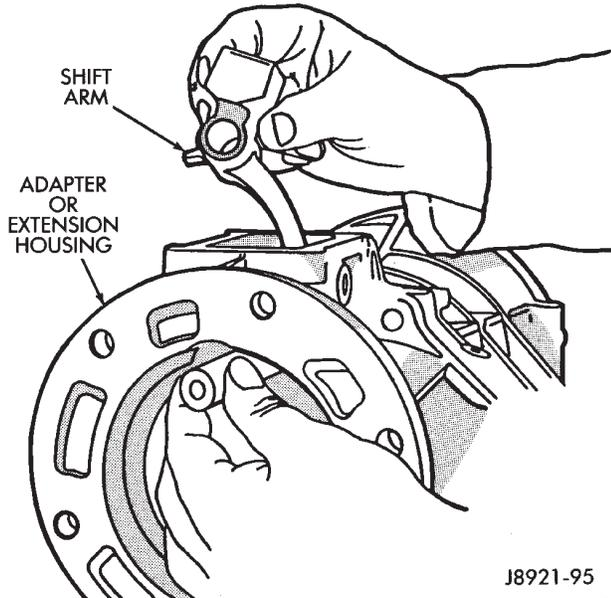
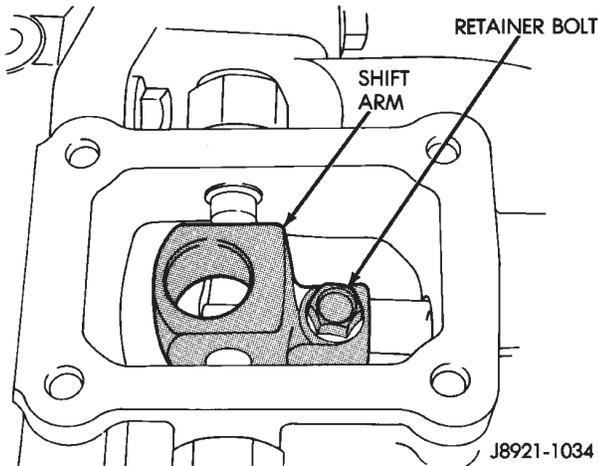

Fig. 40 Install Shifter Arm Shaft
Fig. 41 Install Shifter Arm Retainer Bolt
(11) Start shifter arm shaft in hole in back of adapter or extension housing. Align shift arm and shifter arm shaft and insert shifter arm shaft through the shifter arm and into the forward portion of the adapter or extension housing (Fig. 40).
(12) Rotate the shifter arm shaft until the hole in the shift arm is aligned with the hole in the shaft.
(13) Install the shift arm retainer bolt and tighten to 38 N·m (28 ft. lbs.) (Fig. 41).